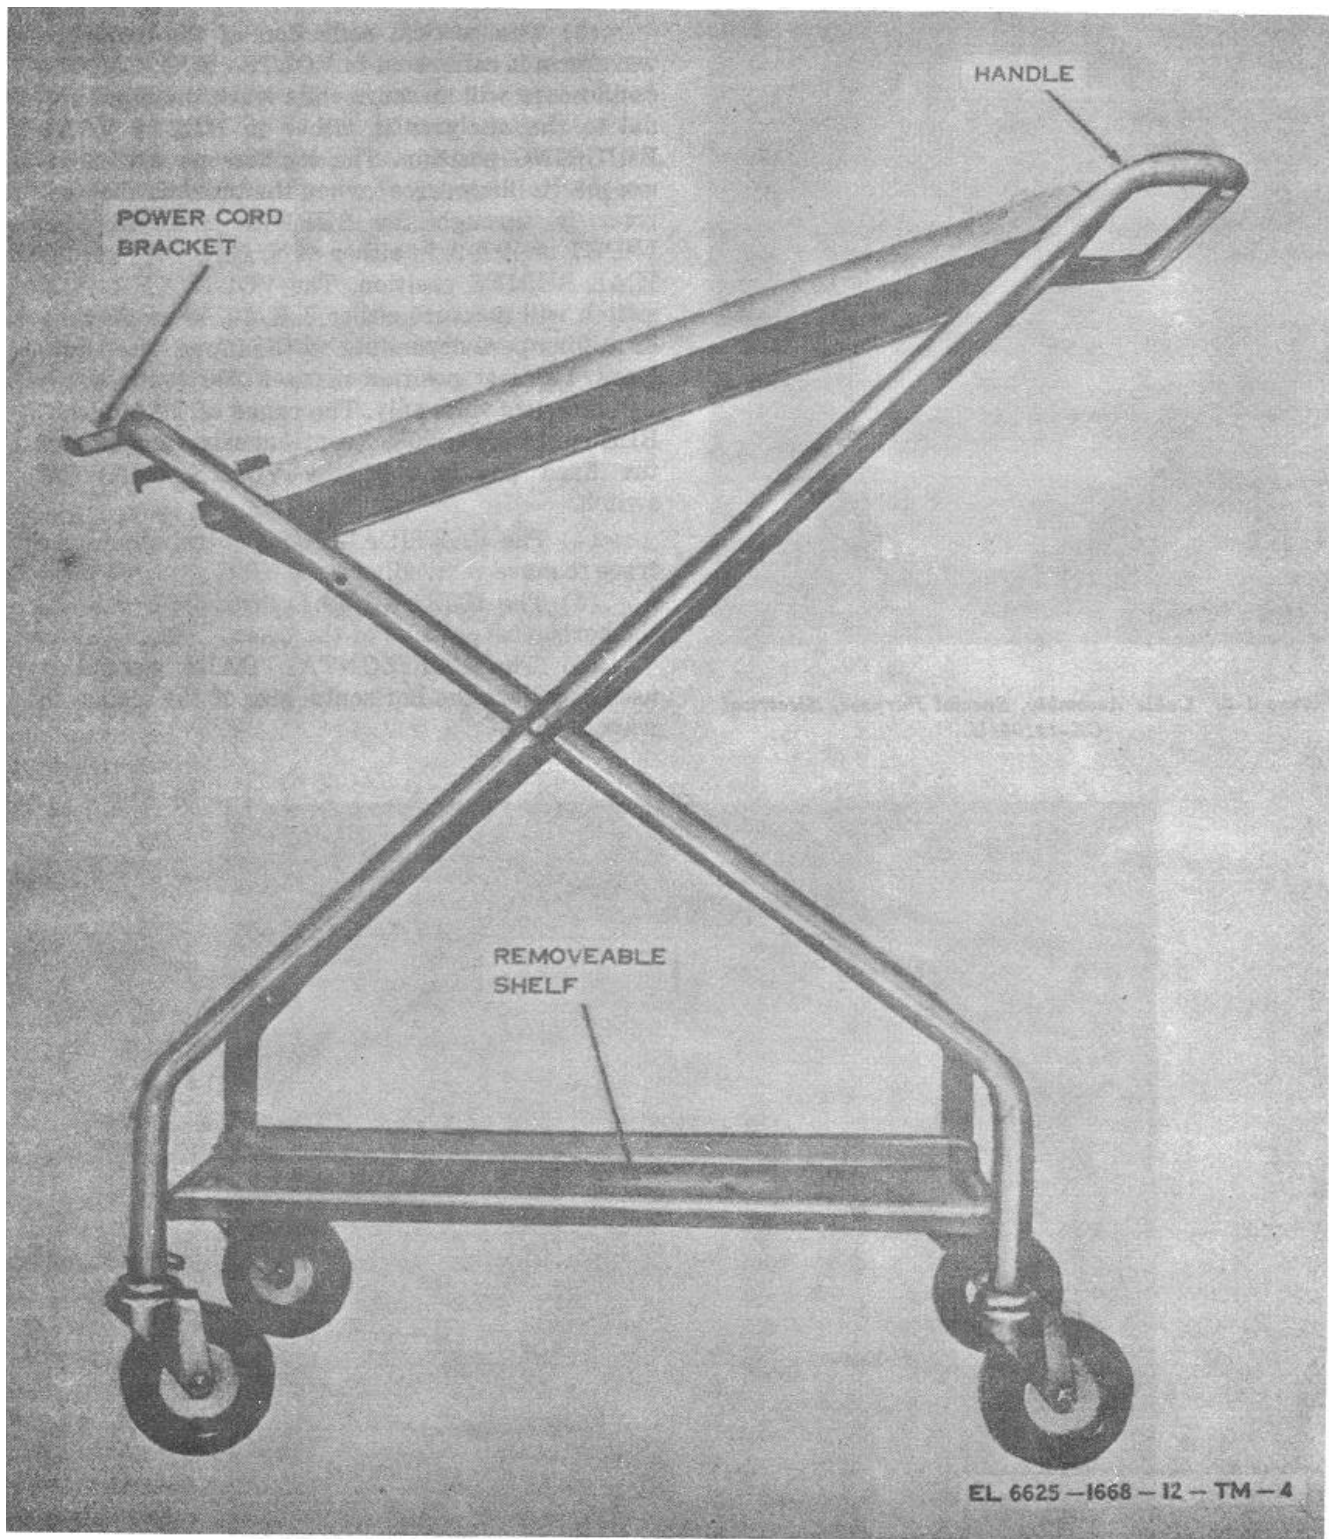

Figure 1-4. Dolly, Testt Set V-434/GGM-15(V).
e. *Dolly, Test Set V 434/GGM-15(V).* The V 434/GGM-16(V), hereafter referred to as the dolly (fig. 1-4), is equipped with four swivel wheels or casters and is used to transport and position the test set at a convenient level. The dolly is provided with a removable lower shelf for the storage of unused test equipment. A power cable bracket is provided to store the power cables when not in use. For storage, the dolly is folded into a flat package.